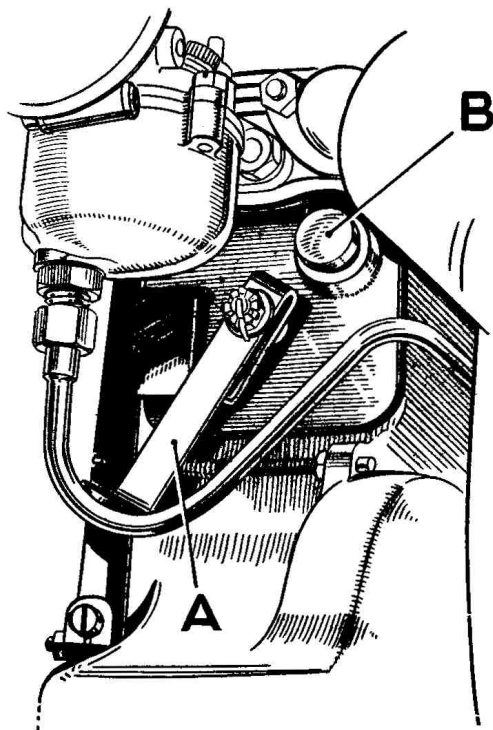

Fig. 4. Slow Running Lever (120 and 220 c.c.).
In order to start from cold it is necessary to flood the carburetter by depressing the "tickler" on top of the float chamber and close the strangler. This is done by moving the lever on the side of the choke chamber away from the engine. Then lift the slow running lever (A, Fig. 4) to its stop where it is retained automatically.
Crankcase breathing is controlled by a single non-return disc valve (see Fig. 5), fitted into the tappet cover plate on the 98 c.c. and 220 c.c. engines as shown at (B) Fig. 4, and pressed into the crankcase on the 120 c.c. engine. This prevents oil leaks with a consequently clean engine exterior at all times, and of course, enhanced oil economy.